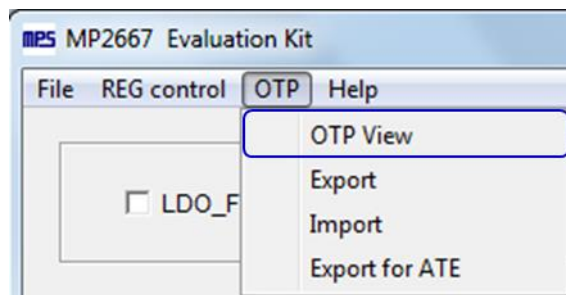

Figure 8: Select OTP
3. Select “OTP View” in the toolbar (see Figure 8).